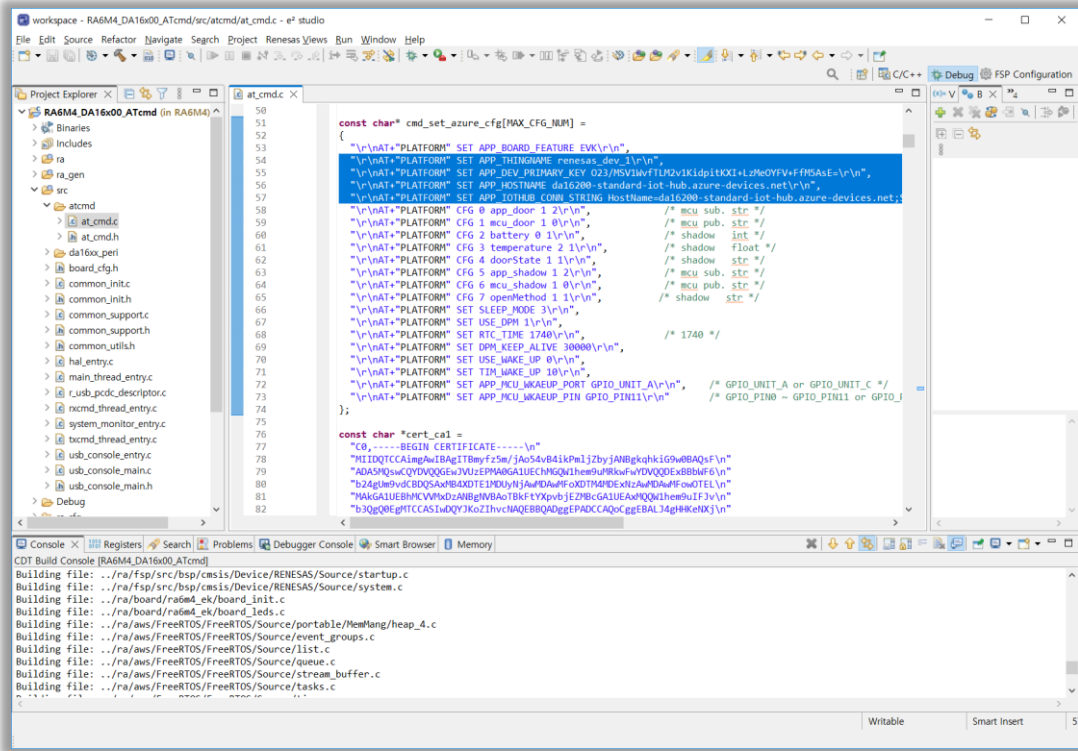

Figure 51: Thingname/Primarykey/Hostname/IoT Hub Connection String
4. Change the configuration to the received configuration (see Figure 51).